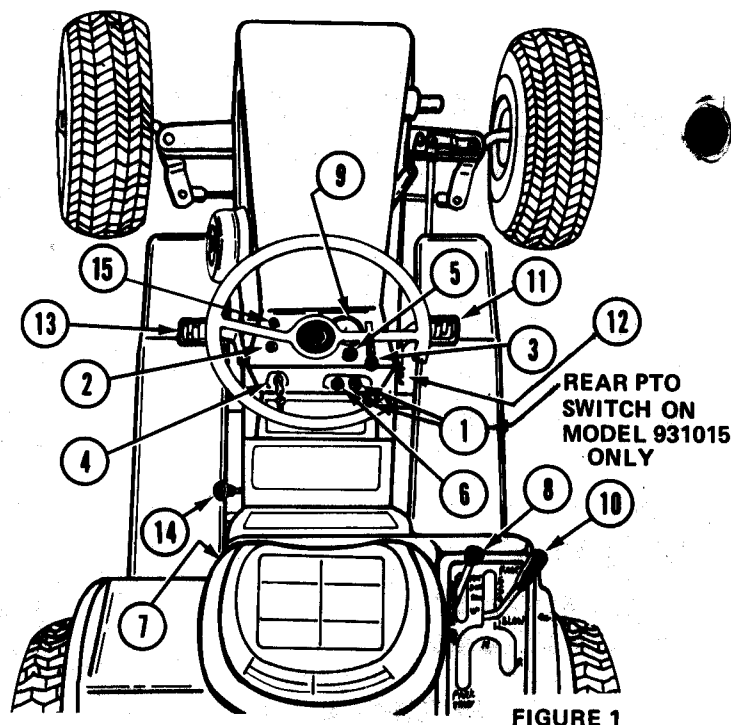
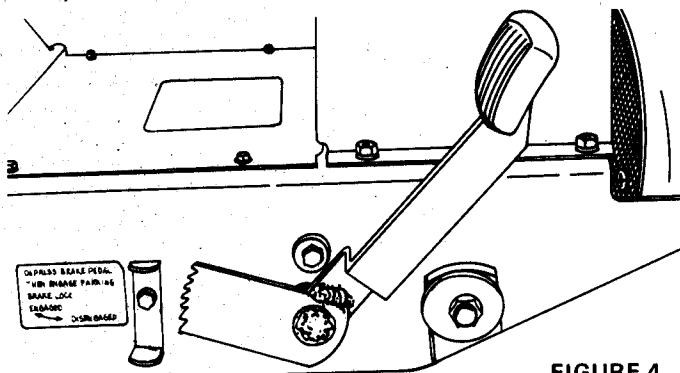

FIGURE 1
FIGURE 4
① Implement Power Control Switch (Figure 1). Pull the switch out (ON) to engage the electromagnetic clutch to drive the mower and front mounted attachments. (12, 14 and 16 H.P.)
② Implement Power Indicator Light (Figure 1). This light glows red when either of the implement power control switches ① is pulled out to indicate that the attachment is engaged.
③ Throttle Lever (Figure 1). Raise the lever to increase engine speed. Lower the lever to decrease engine speed.
④ Ignition Switch (Figure 1). Turn the key fully clockwise to start the engine and release when the engine starts. Turn the key counterclockwise to stop the engine.
⑤ Choke Control (Figure 1). Pull choke control out when attempting to start a cold engine or when starting during cold weather. When engine starts, gradually push choke in. Normally, it is not necessary to use the choke when starting a warm engine.
⑥ Light Switch (Figure 1). Pull the switch out to turn on the front and rear lights. The ignition key must be turned on before the lights work.
⑦ Seat Interlock Switch (Figure 1). This switch, located in the seat, is actuated by the operators weight. If the operator leaves the seat for any reason while the PTO is "ON" or the shift lever is not in "PARK START" the PTO clutch and engine ignition are both shut off. When the PTO is "OFF" and the shift lever is in "PARK/START" leaving the seat will not cause the engine to stop.
⑧ Hydraulic Lift (Figure 1) This lever controls the hydraulic system used to raise and lower attachments. The lever has four positions – UP, HOLD, DOWN and FLOAT. The normal out-of-use position is the "HOLD" position. In this position the attachment will not raise or lower. When it is desired to raise the implement, move the lever to the "UP" position; to lower the attachment move the lever to the "DOWN" position. Place the lever in the "FLOAT" position to allow the attachments to follow the ground contours.
⑨ Ammeter (Figure 1). The ammeter indicates the rate of battery charge or discharge. The indicator should register on the (+) side of the dial when the engine is running at any speed above a slow idle. When the engine is idling or with a fully charged battery, the ammeter may not show charge. Should the ammeter register on the (–) side of the dial for an extended period of time with the engine running, it indicates the alternator is not charging the battery. Check the battery connections or contact your dealer.
⑩ Hand Control Lever (Figure 1). This lever regulates both tractor speed and direction. Move the lever for-
⑪ Brake Pedal (Figure 1) When this pedal is depressed the friction brakes will be applied to stop the tractor, DEPRESS THE NEUTRALIZER PEDAL ⑬ OR RETURN THE HYDRO STATIC CONTROL LEVER TO NEUTRAL BEFORE ATTEMPTING TO STOP THE TRACTOR.
⑫ Parking Brake (Figure 1) The parking brake is a latch that locks the brake pedal. To apply the parking brake, depress the brake pedal, flip up the parking brake latch. ⑫ To disengage the parking brake, depress the brake pedal and push down the latch.
⑬ Neutralizer Pedal (Figure 1). When this pedal is fully depressed the hand control lever will return to neutral and the forward or reverse motion of the tractor will stop. KEEP FOOT OFF PEDAL DURING NORMAL OPERATION OR WHEN MOVING THE HAND CONTROL LEVER. The pedal is an optional control for slowing down or stopping. Use of the pedal and hand control lever simultaneously can result in misadjusted hydrostatic linkage.
- Be sure the Implement Power Control Switch ① Figure 1, is pushed in (OFF).
- Raise throttle lever ③ Figure 1, to approximately 1/3 fast position.
- Pull choke control ⑤ Figure 1, all the way out if engine is cold. If engine is warm, little or no choke may be required.
- Turn ignition key ④ Figure 1, clockwise all the way. Release key as soon as the engine starts and push choke button in. In cold weather it may be necessary to push choke in gradually until engine warms up. If engine fails to start on the first attempt, turn key to off, wait a few minutes and try again. Do not operate the starting motor continuously for more than 30 seconds at a time.
To stop the tractor, depress neutralizer pedal completely ⑪ or move control lever ⑩ to neutral, Figure 1, and depress the brake pedal. Then place the control lever in the "Park Start" position and set the parking brake. Figure 4.
1. Move the hand control lever ⑩ Figure 1, in "Park-Start" position and set the parking brake, Figure 4.
2. Disengage Implement Power Control Switches ① Figure 1, and driven attachments.
4. Lower the throttle lever ③ Figure 1, and allow engine to idle for a short period before turning it off.
5. Turn the ignition key ① Figure 1, counterclockwise to stop engine.